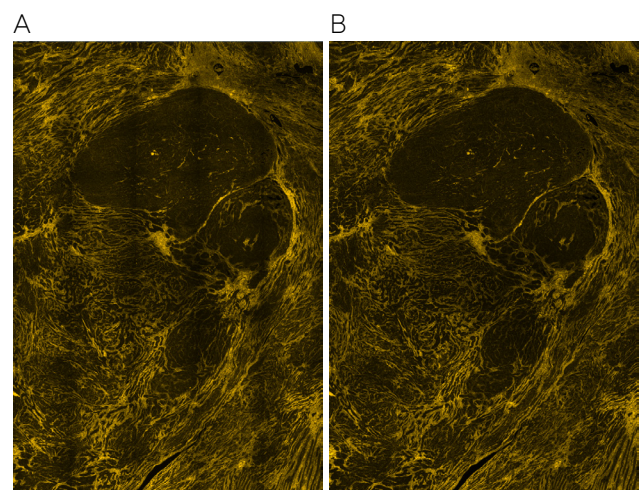

Figure 3. Enhanced fluorescent imaging in (A) previous generation CellCelector, and (B) new CellCelector CLD platform
- Implementation of a new shading correction algorithm to ensure homologous fluorescence imaging during clone productivity (Fig. 3)